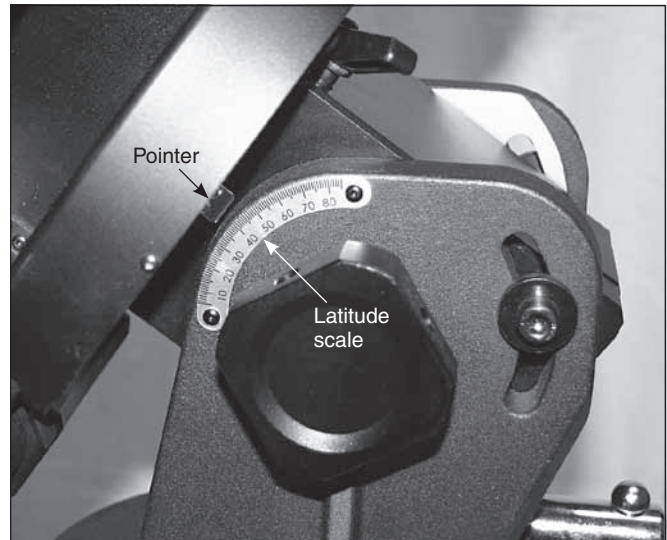

Figure 14. Refer to the latitude scale to set the mount to the latitude of your observing or imaging site.
2. Use the jackscrew handle to set the mount angle to your latitude, referring to the latitude scale and pointer on the left side of the mount (**Figure 14**). (If you don't know your latitude, consult a geographical atlas or look it up on the internet.) For example, if your latitude is 36° North, set the pointer to 36.
6. Install the handle on the altitude jackscrew and use it to set the latitude scale to your local latitude (**Figure 14**).